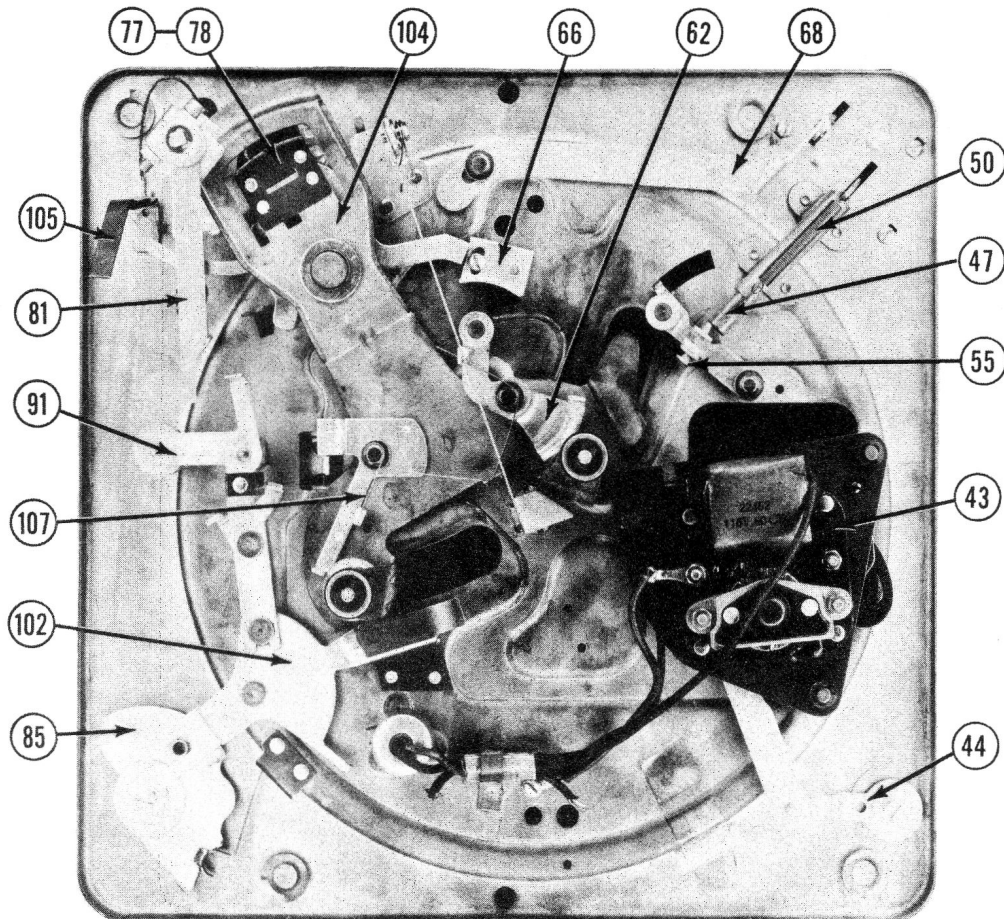

FIGURE 4
The ratchet arm friction springs (77 and 78) engage the ratchet arm (75), swinging the pickup arm out to a position where it is stopped by the ratchet arm contacting the stop bracket (105) figure 4. The swing arm now pushes against the cam roller of the ejector idler lever (52), which, in turn, moves the lower push pin (47), the ejector lever (37), and the 12-inch record slide bolt (4), thus pushing a 12-inch record off the record shelf.
As the cycle nears completion, the swing arm contacts the brake spring (106), figure 4, which prevents acceleration of the swing arm, thus assuring gentle lowering of the pickup arm to the record as the plunger pin rides down the cam of the swing arm. The friction springs (77 and 78) and the ratchet arm lever (72) are moved away from the ratchet arm through the movement of the swing arm; therefore, the pickup arm is free to move across the record.
1. The lead roller lever torsion spring (107), figure 4, is loose, allowing lever (95) to slip from beneath the lead roller (32A).